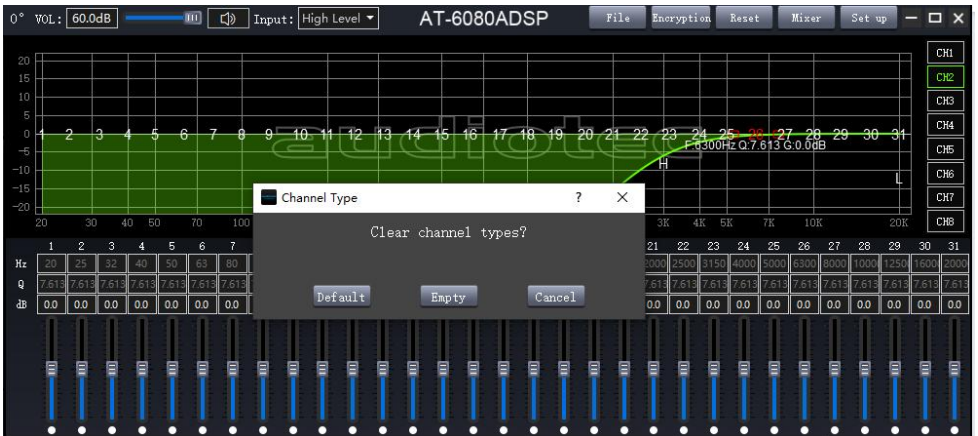

Figure 3.3.4
**The third step**, after the user has configured all of the output signal path, click on the right side of Figure 3.3.4 "Lock Output Configuration" to lock the configured output channel speaker sound field position. So that users and then in the bottom of each channel label, click on the type of drop-down menu box, type options will not pop up.
**Straight balanced:** the button shown in Figure 3.3.4, the current channel as long as there is an equalizer in the open state, this button will appear highlighted in green state, indicating that you can click this button to make all the equalizer .
**Reset balanced:** the button shown in Figure 3.3.4, click this button to make all current channel equalizer parameters return to the initial state: uniform distribution of frequency, Q value is 1.2, a gain of 0dB.